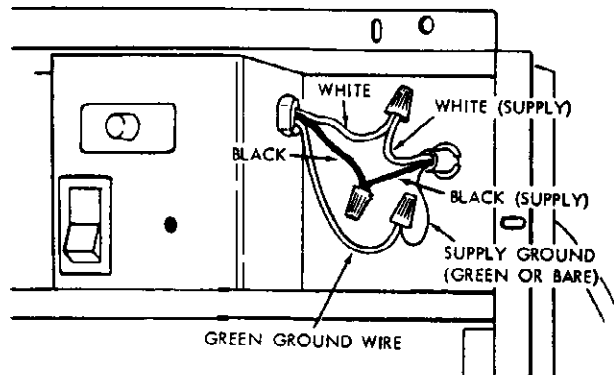

Figure 18
Wiring to the air cleaner must comply with local electrical codes. For this reason, specific wiring instructions are not given. The color coding of wires out of the female power receptacle are white and black. They should be matched to wires of the same color from electrical power source (figure 18). Connect ground wire from power source directly to the green grounding wire provided in the junction box area.
- a. Connect black and white wires from power supply to corresponding black and white wires in the air cleaner junction box. (See figure 18.)